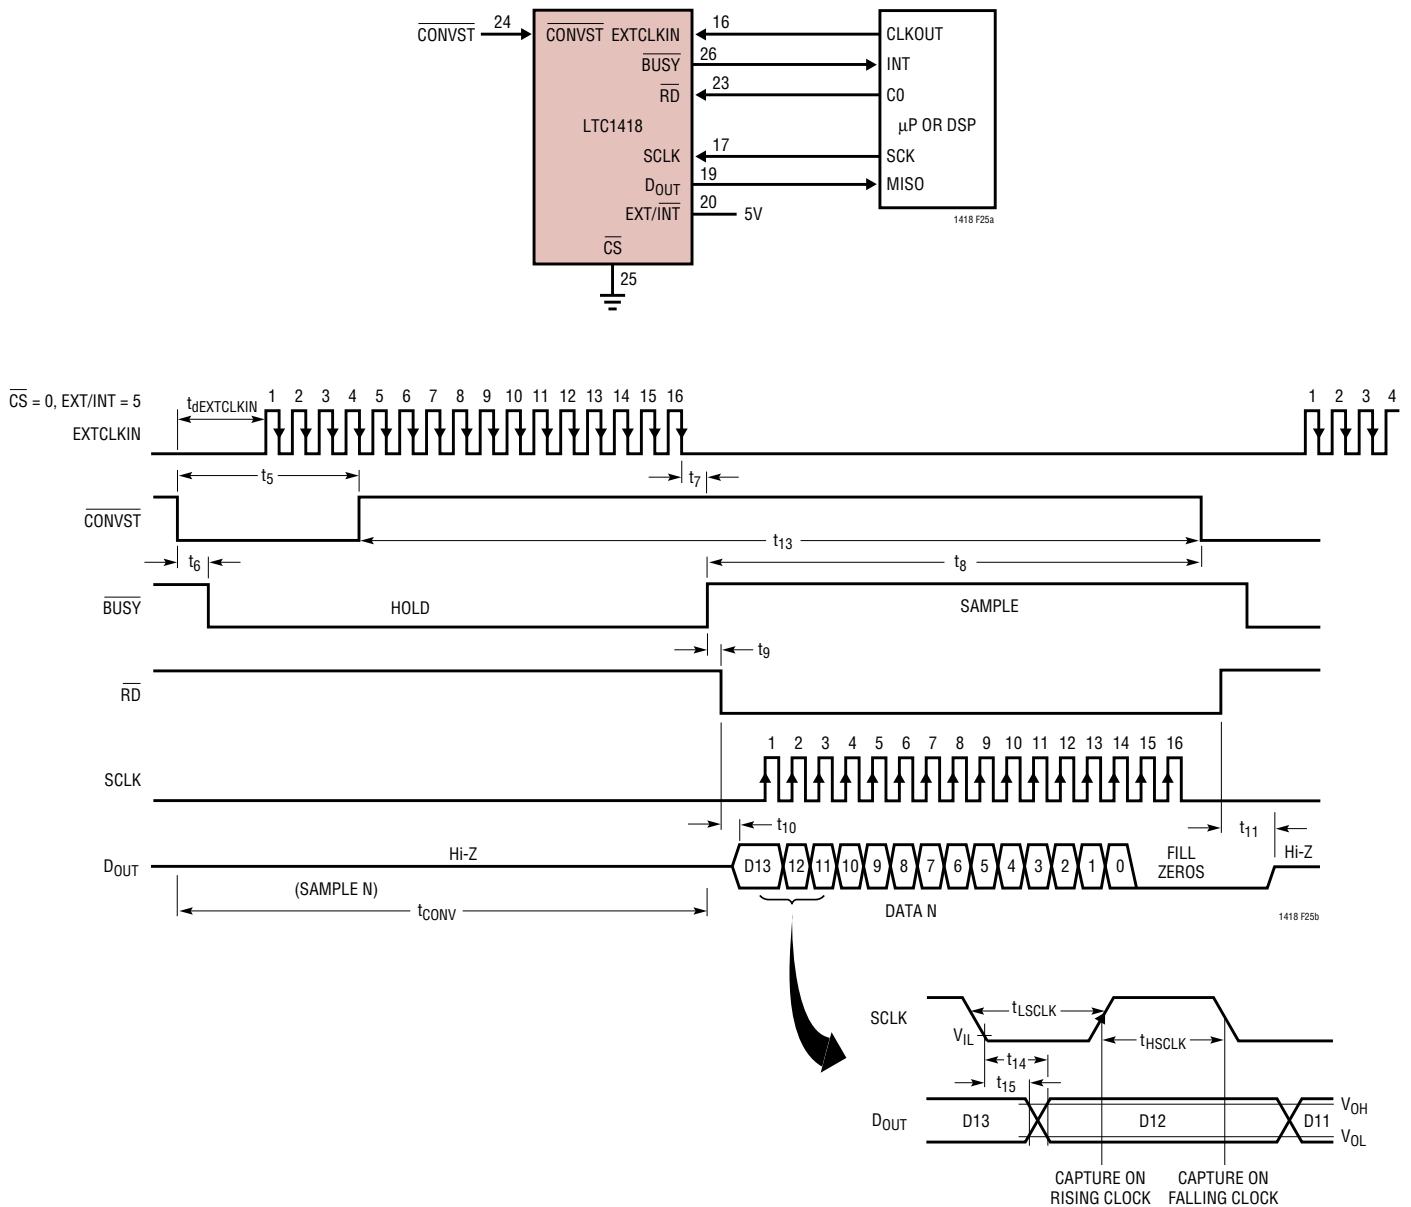

**Figure 24. Internal Conversion Clock Selected. Data Transferred After Conversion Using an External SCLK. BUSY↑ Indicates End of Conversion**
In this mode, data is output after the end of each conversion but before the next conversion is started (Figure 24). The internal clock is used as the conversion clock and an external clock is used for the SCLK. This mode is useful in applications where the processor acts as a master serial device. This mode is SPI and MICROWIRE compatible. It
**Using External Conversion Clock and External Data Clock.** In Figure 25, data is also output after each conversion is completed and before the next conversion is started. An external clock is used for the conversion clock and either another or the same external clock is used for the SCLK. This mode is identical to Figure 24 except that an external clock is used for the conversion. This mode
allows the user to synchronize the A/D conversion to an external clock either to have precise control of the internal bit test timing or to provide a precise conversion time. As in Figure 24, this mode works when the SCLK frequency is very low (less than 30kHz). However, the external conversion clock must be between 30kHz and 4.5MHz to maintain